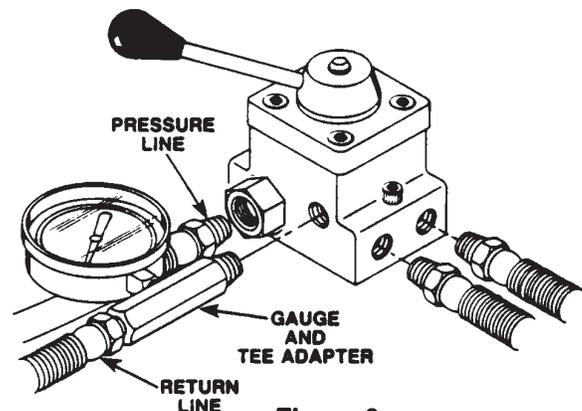

Figure 2
3. It is recommended that a gauge, mounted to a tee adapter, be temporarily installed directly into the oil return port of the valve. Return line pressure should not exceed 500 PSI. See Figure 2.